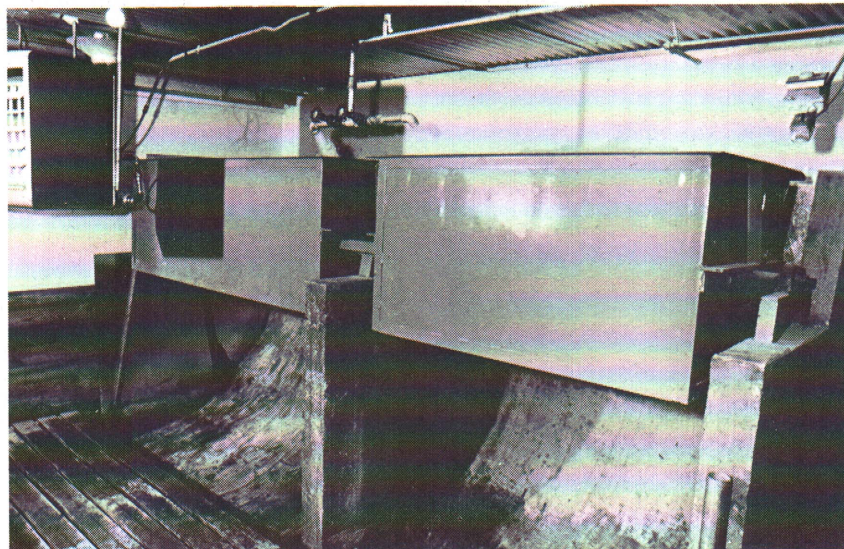

Figure 4. Tipping bucket tank used for flushing underslat gutters.
**Tipping tank:** A tipping tank dumps when it fills to a depth where the center of gravity of the water volume over-balances the pivot point. Usually the tank is elevated 4 to 6 ft off the floor and the water is dumped backwards onto a curved spillway. This increases the velocity and lowers the head of water so it will clear a 9- to 10-inch opening between the bottom of the first slat and the surface of the gutter. Because the water discharges all at once, flushing velocity and depth are high and can cover a gutter 8 to 10 ft wide (Figure 4). Gutters flushed with a tipping tank should be 12 inches deep or more to minimize water splash into the first pen.